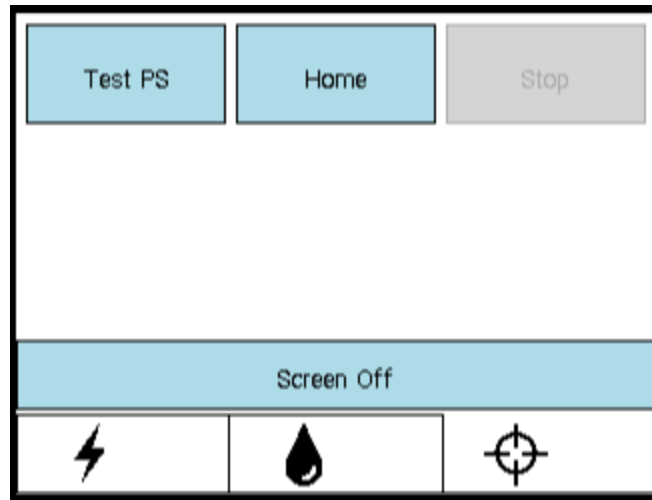

Figure 9: PSIB display - PS tab
- b. On the PSIB display, select the PS tab  and click **Test PS** (Figure 9). The system will translate the PS forward and backward to test the continuity and functionality of the translation axis as well as home the PS in the translation axis. The system will also rotate the rotational axis clockwise and counter-clockwise to test the continuity and functionality of the rotational axis. (This